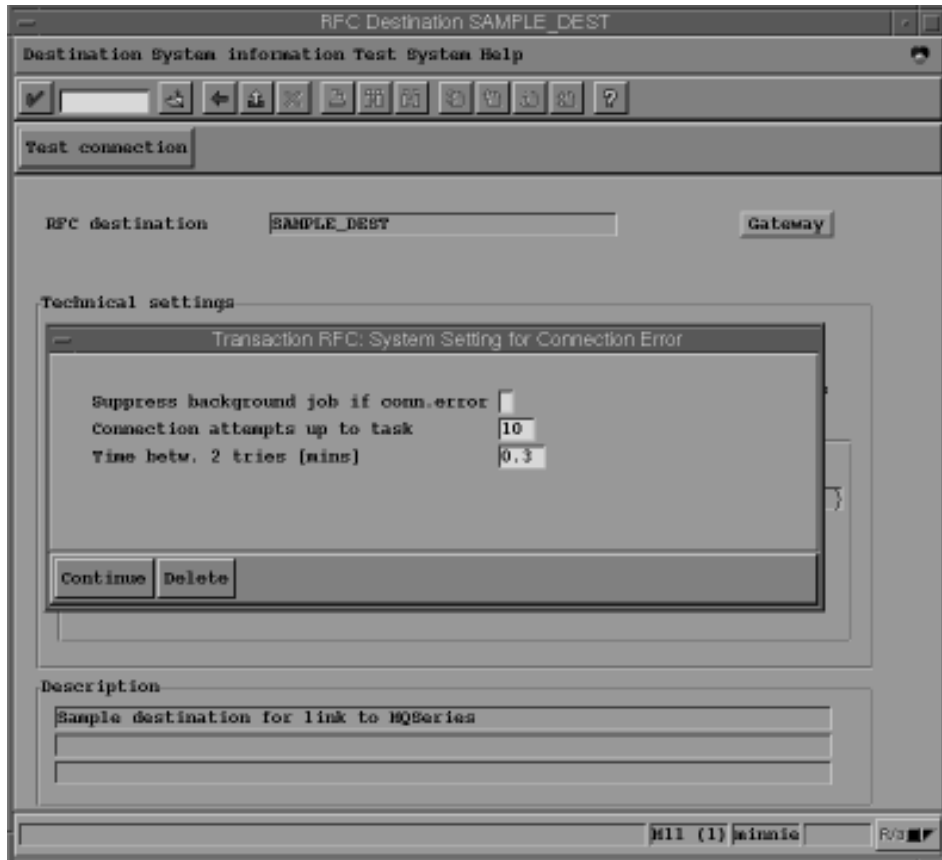

Figure 12. TRFC Options panel: specifying IDoc retry parameters
- Occasionally the R/3 system may fail to connect to the SAP link outbound server, causing IDocs to be delayed. These IDocs are shown in R/3 transaction sm58 with the message 'Gateway or Target system not active'. To force R/3 to automatically retry these IDocs, pull down the Destination menu and select TRFC options. The panel displayed in Figure 12 on page 26 will be shown. Fill in values for the number of retries and the retry interval. The values shown are examples. Some experimentation may be required to find values that provide optimum performance on your system.